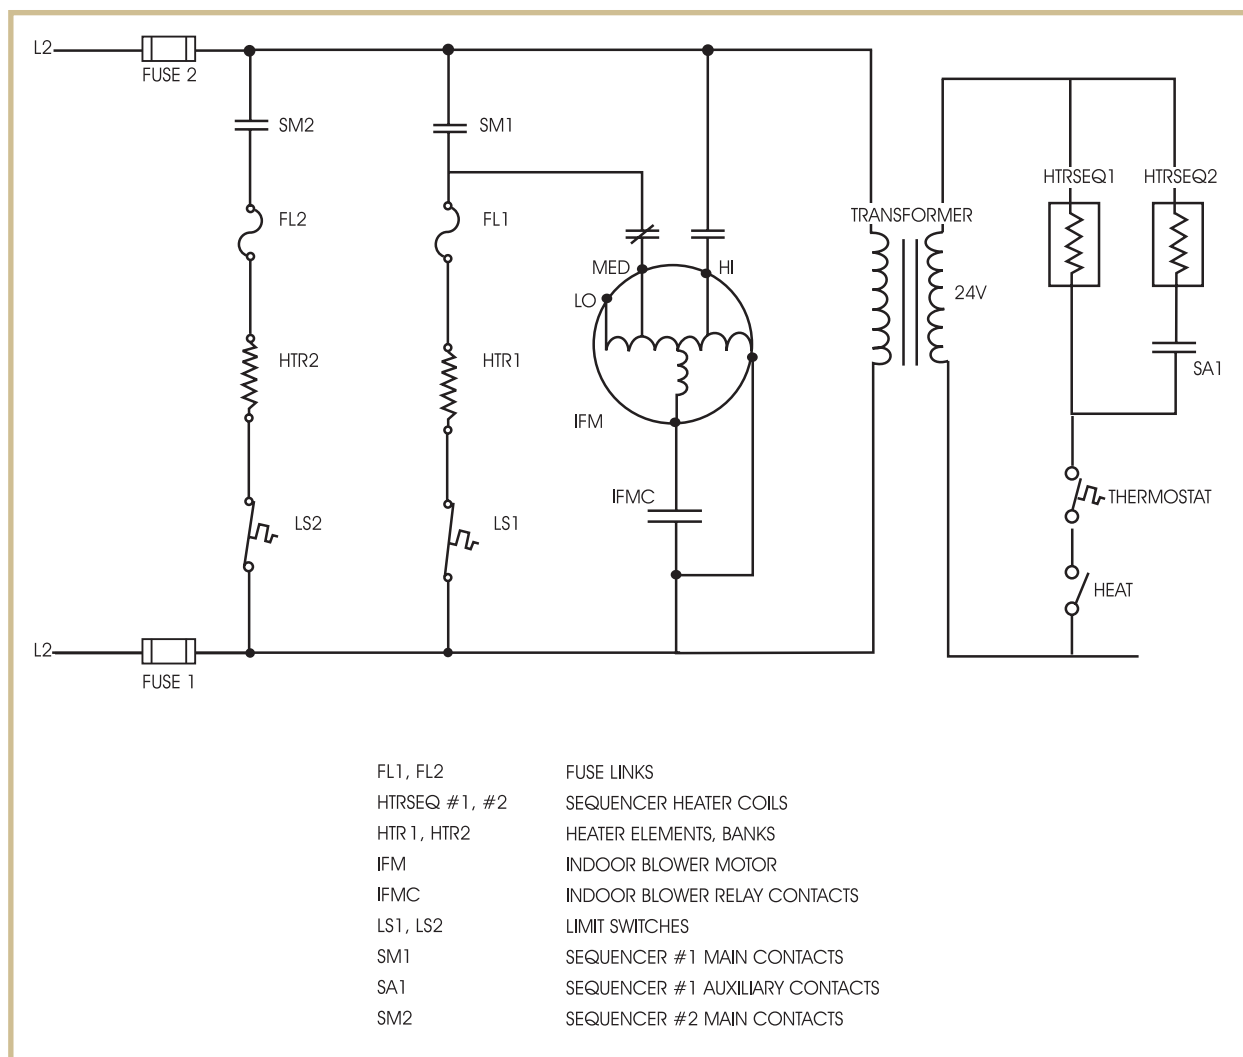

FIGURE 12—Electric Furnace Control Diagram
Figure 12 shows a schematic of an electric furnace control. This furnace has two heating elements and a blower motor. When the thermostat calls for heat, the heating elements are sequenced with a timed delay of 20 to 30 sec (seconds) before the energizing of the next element. The example shows only two elements, but many electric heaters have several elements, with a timed delay before the energizing of each subsequent element.
4. Does the thermostat in the heating circuit in **Figure 12** directly make and break the line-voltage supply to the heaters? Why or why not?